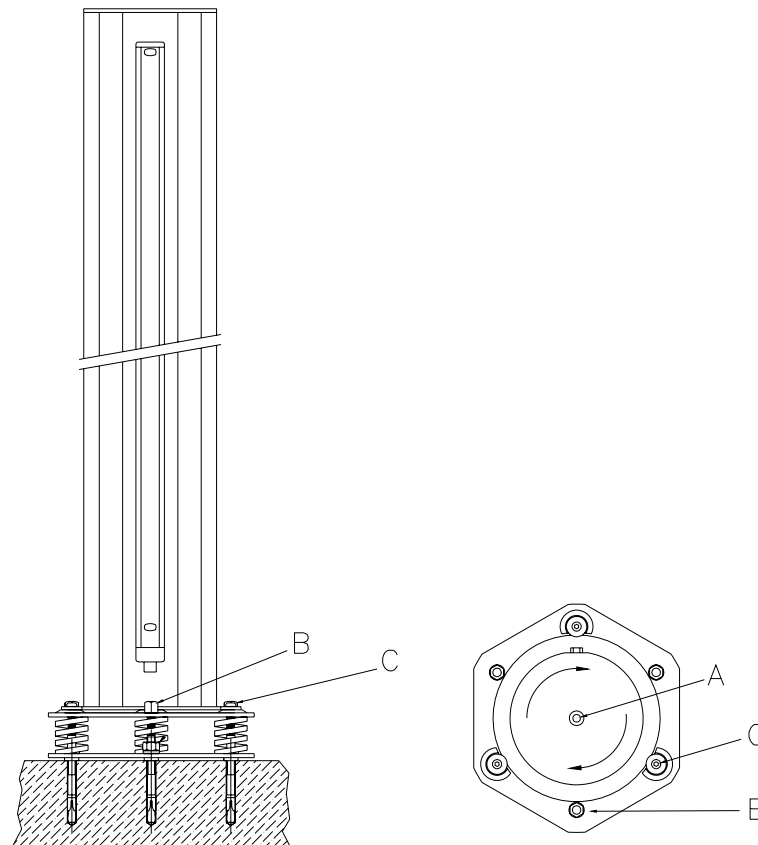

Figure 4
*To operate the regulation, act on the three hexagonal nuts **B** (fig.4) until the perfect levelness is reached. (Maximum adjustment: 10mm). If the ground roughness is over 10mm, flush it adequately.*
ALIGNMENT OF EMITTER AND RECEIVER (Fig. 4)